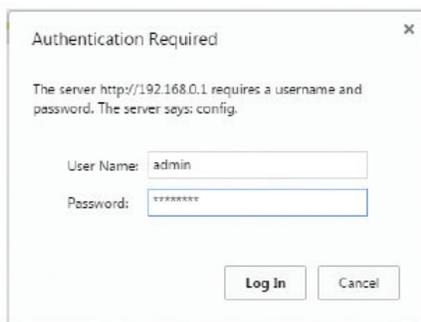

Figure 6: ThermaSol SWM-2 configuration web page log in
2. Enter default values “admin” for username and “PASSWORD” for password to log in to the SWM-2 configuration web page as shown in Figure 6